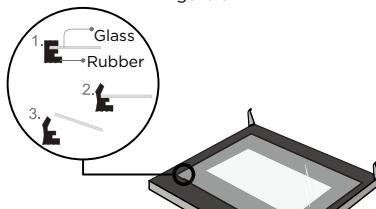

Figure 6
6. After pulling out the inner glass, please take out the middle layer glass as shown in Figure 6. (only for specific models)